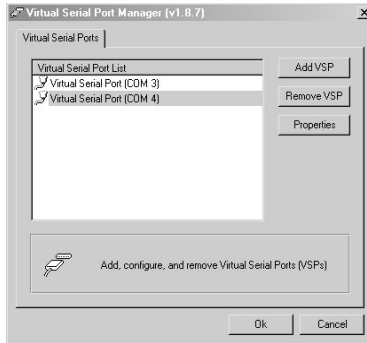

Figure 10: The Virtual Serial Port Properties Window (COM 3 and COM 4)
3. You can set a virtual port for each local port on your **VS-41HDMI** (see Figure 10).